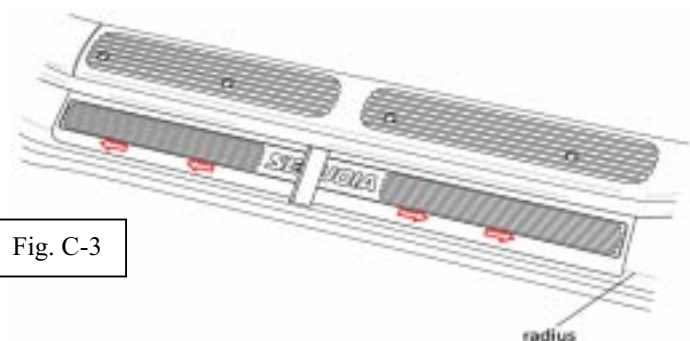

Fig. C-3
5. Using a felt block, slowly squeegee the applique to the vehicle over the radius surface starting in the center and working out to each end with smooth overlapping strokes. (Fig. C-3)